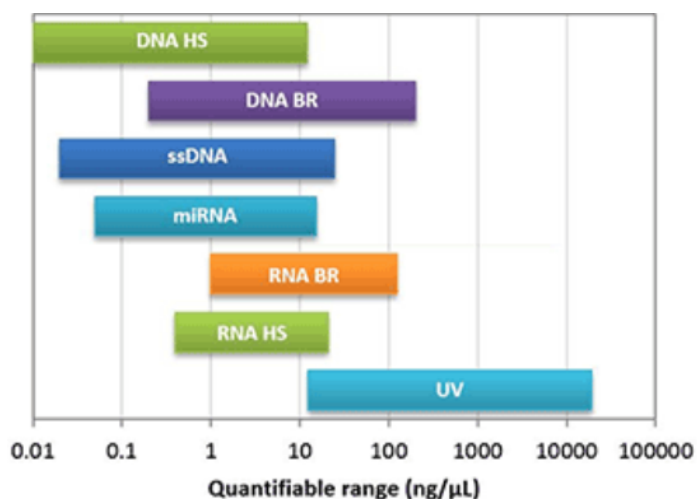

Figure 1 Comparison of sample concentration ranges for the Qubit Assays
- Choose a kit based on the type of extract is being quantified and the Quantifiable Range of the kits presented in **Figure 1**.